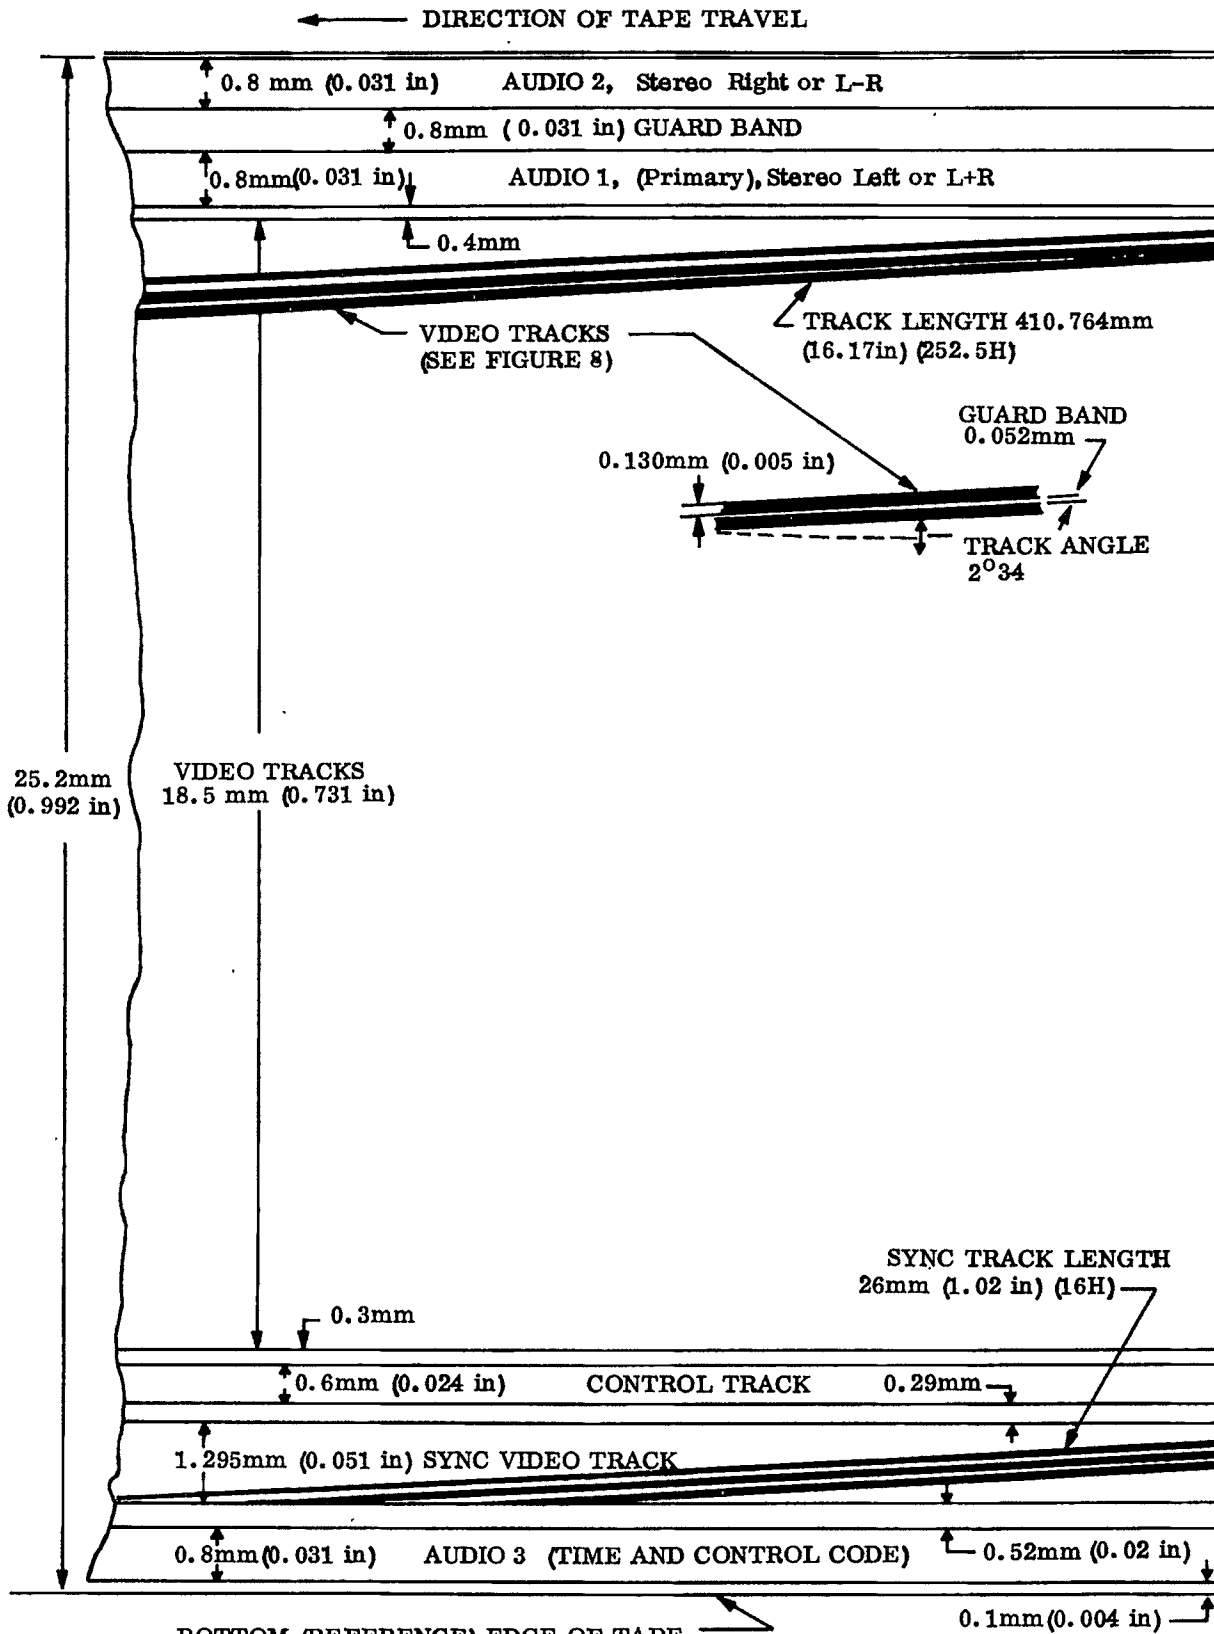

FIGURE 1. RECORD LOCATION, C FORMAT (525/SMPTE)
2. Figure 1 is a summary of the track dimensions and locations on the one inch wide magnetic tape used for the C Format.
3. As in previous videotape recording systems, the C Format Helical Scan system records frequency modulated (FM) RF signal on the magnetic tape, using a record transducer rotated at high speed across the tape, which is moving at a relatively slow speed. The standard frequencies are similar to those used with high band video recording systems for many years.